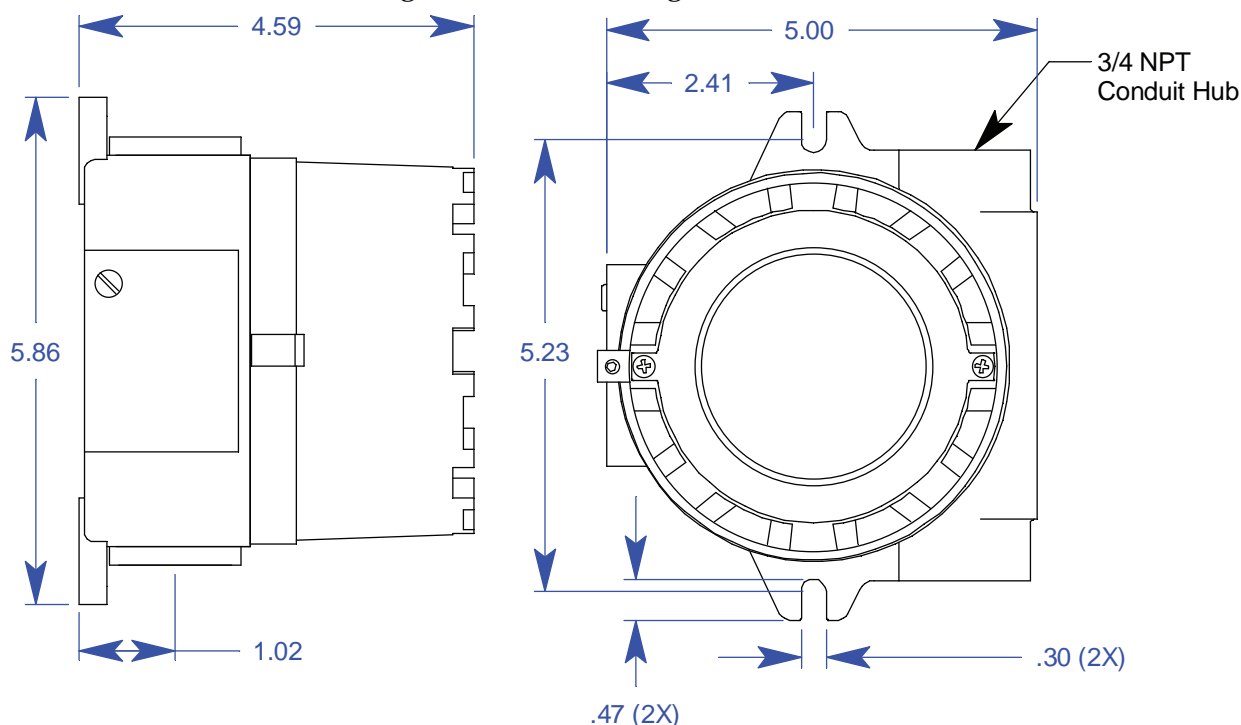
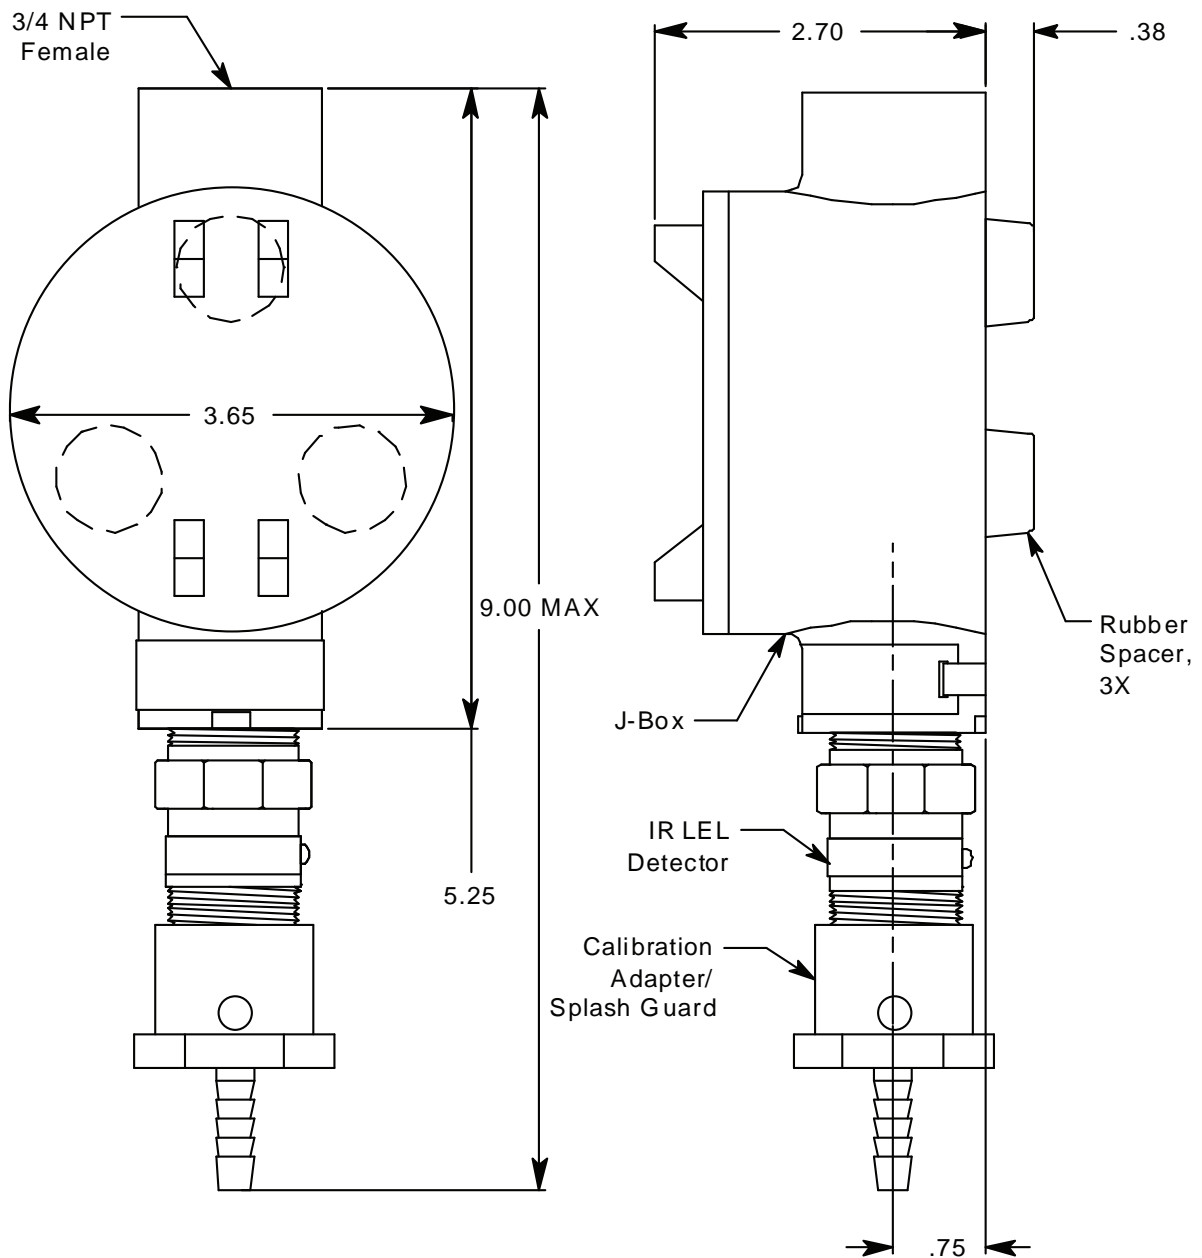

Figure 4: Outline & Mounting Dimensions, M2 Junction Box
Figure 5: Outline & Mounting Dimensions, Detector Junction Box
2. Use #10 screws through the M2 junction box's two mounting slots to secure the junction box to a vertical surface. Figure 4 shows the outline and mounting dimensions the M2 junction box. Figure 5 shows the outline and mounting dimensions for the detector junction box. Mount the detector junction box with the detector facing down as shown in Figure 5.